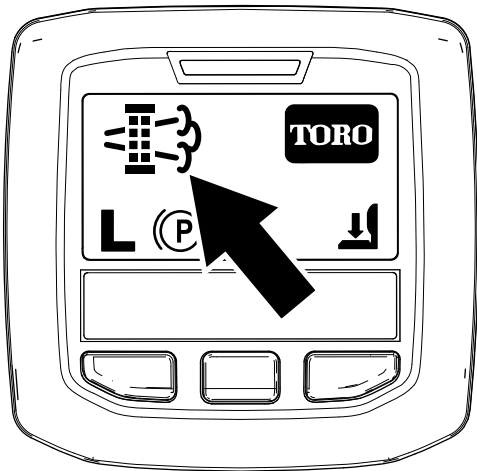

Figure 46
- When the engine computer requests either a parked regeneration or a recovery regeneration, the regeneration request icon (Figure 46) displays in the InfoCenter.